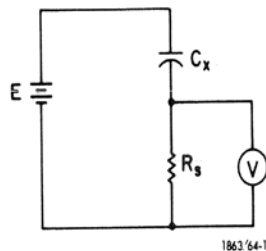

Figure 4-2 Basic megohmmeter circuit
Measuring insulation resistance of large capacitors that have very low leakage is difficult by any method. Considering the basic circuit of Figure 4.2, if R_s is high, the $R_s C_x$ time constant can become very long on the high resistance ranges if C_x is large. If R_s is low, the voltmeter must be very sensitive for a given leakage resistance range and, therefore, the supply voltage (E) must be extremely stable to avoid large meter fluctuations. The design of the 1863 and 1864 is a compromise between these factors. Measurements become difficult when the $R_s C_x$ product is 10^6 , even under ideal conditions. This can be calculated as (C_x in μF) \times (R_s in $M\Omega$) or (C_x in F) \times (R_s in Ω). Table 4.1 contains values for R_s .